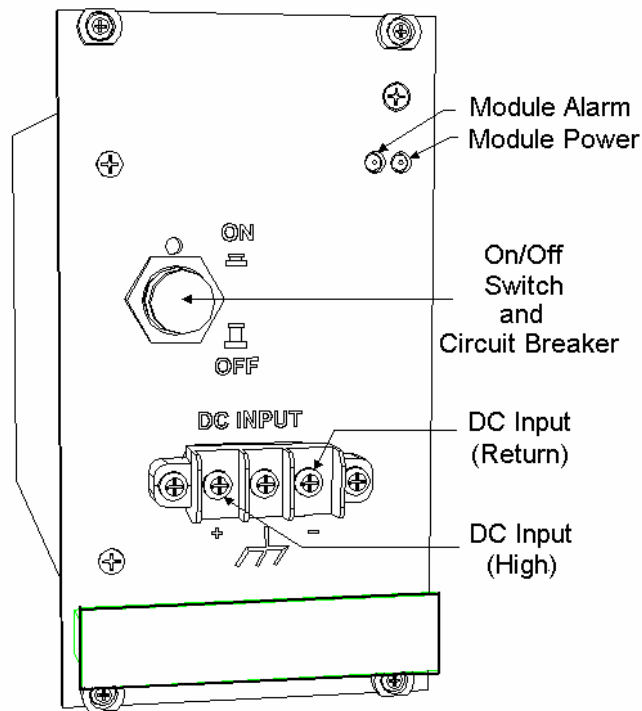

Figure 5-2 24 and 48 VDC Power Connections
- 24 VDC and 48 VDC inputs refer to Figure 5-2 and paragraph 10.3).